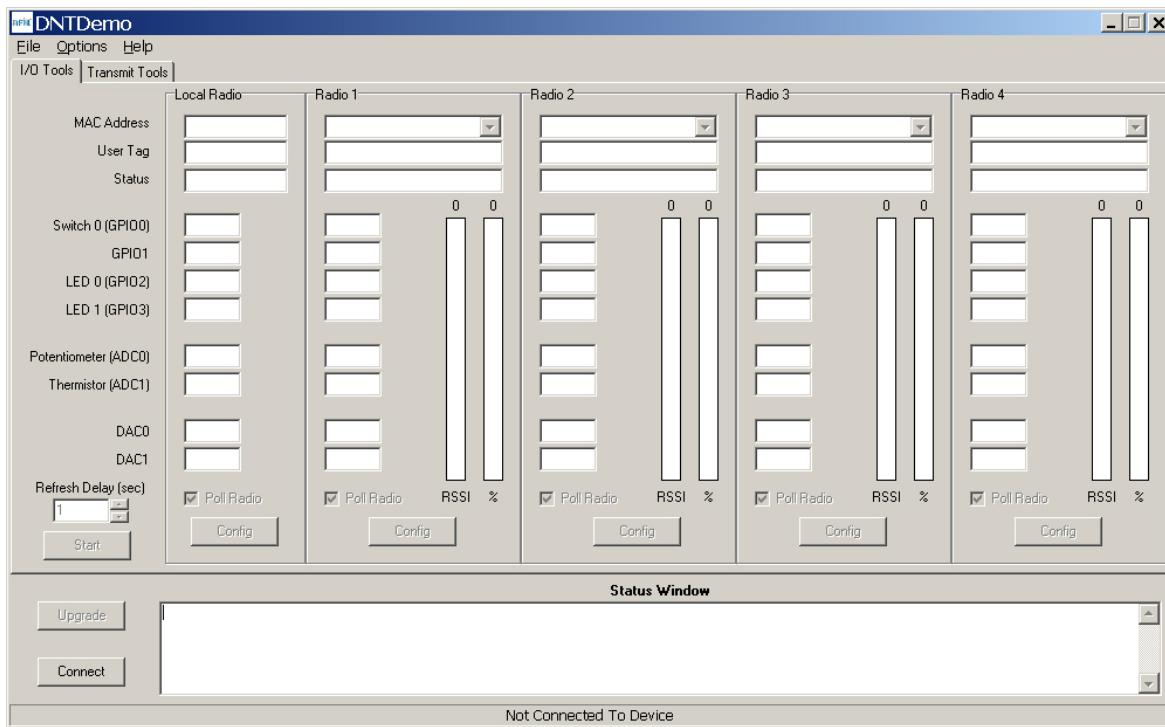

Figure 8-5 DNT Demo Start-up Window
1. Start the Demo on the PC. The Demo program start-up window is shown in Figure 8-5.